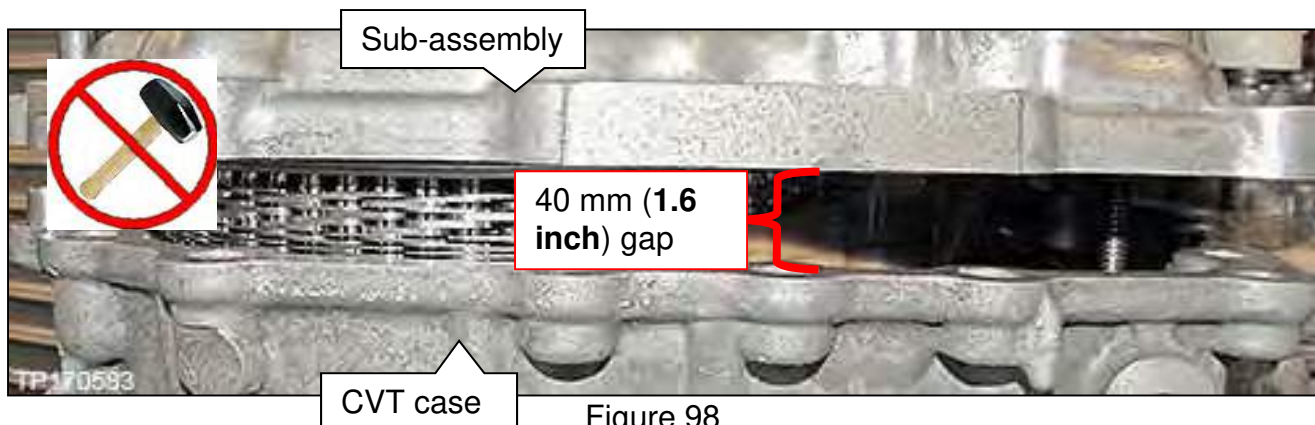

Figure 98
- b. Lower the sub-assembly until a gap of **40 mm (1.6 inch)** is present to the CVT case (Figure 98 on page 44) and then proceed to step 70.
IMPORTANT: Perform step 70 while the sub-assembly has a **40 mm gap (1.6 inch)** to the CVT case (Figure 98).